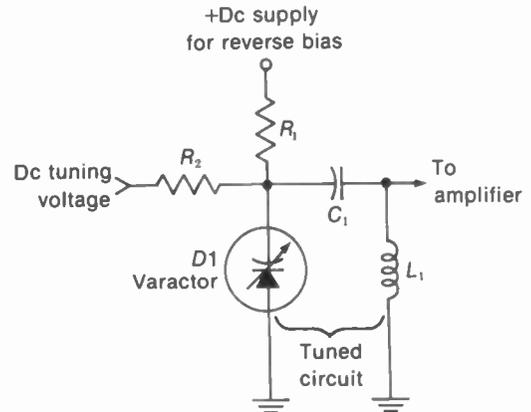
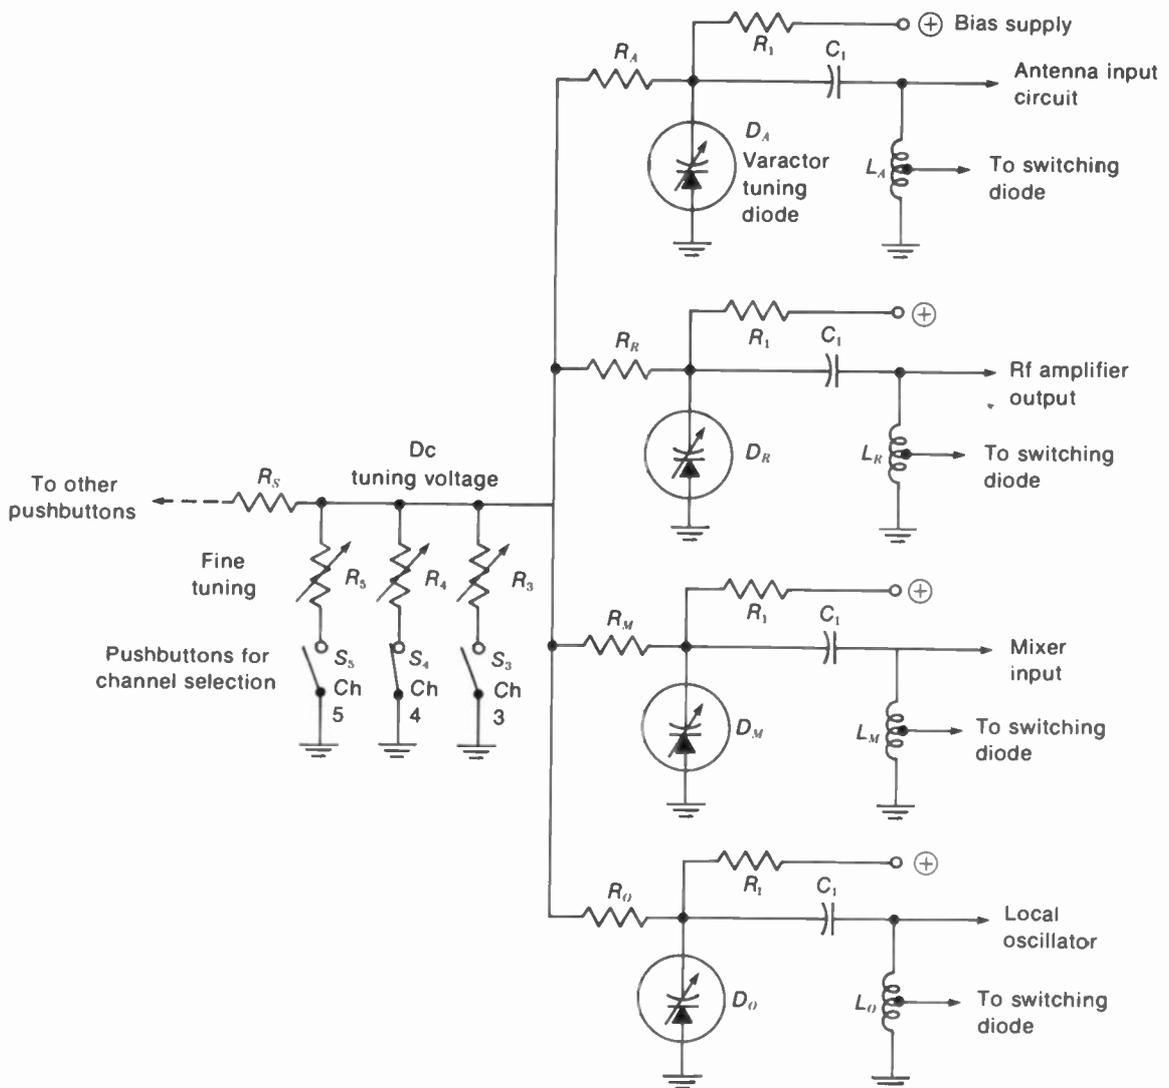

FIGURE 24-27 A BASIC CIRCUIT FOR VARACTOR TUNING.
FIGURE 24-28 CIRCUIT WITH FOUR VARACTORS TO CHANGE CHANNELS BY TUNING RF AMPLIFIER, MIXER, AND OSCILLATOR ON TUNER.
**Varactor-tuned circuit.** Figure 24-27 illustrates how the varactor  $D1$  is used in a resonant circuit.  $L_1$  provides the required inductance, while  $D1$  is
**Varactor tuning for channel selection.** See Fig. 24-28. The four circuits tuned by the varactors are the local oscillator, mixer input, and rf amplifier input and output. Each circuit with a varactor diode and inductance  $L_1$  corresponds to the varactor-tuned circuit in Fig. 24-27. As a result, the four varactors provide tuning for all the resonant circuits on the tuner. The rf circuits
Pushbuttons are generally used to switch in the channel-tuning voltage. As an example, in Fig. 24-28 the pushbutton is in for channel 4.
Only three channels are illustrated in Fig. 24-28, but the same idea applies to all channels. The desired channel is selected by its pushbutton, which supplies the required dc tuning voltage. Furthermore, although channel selection is shown here for a VHF tuner, similar circuits are used for the UHF tuner.